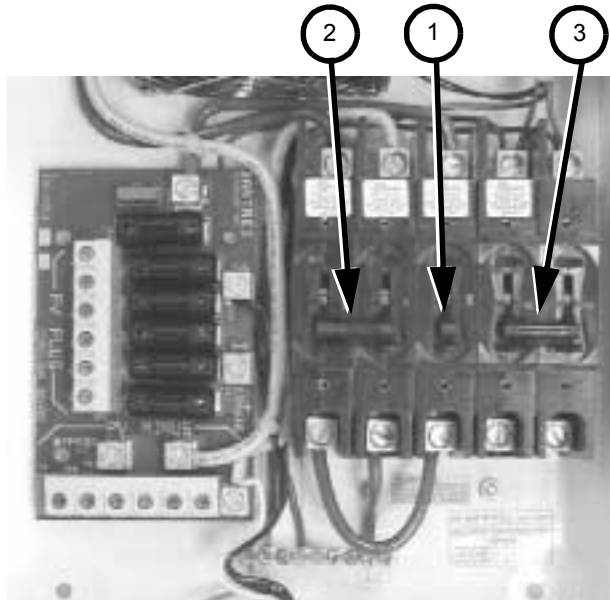

Figure 3-3 Startup sequence
1. Switch on the 100-amp DC circuit breaker located in the Sun Tie XR unit. This breaker supplies the DC power from the PV array to the Sun Tie unit. Refer to Figure 3-3, item 1.
2. Switch on the 1 and 100 amp (ganged) PVGFP breakers. These breakers open when 1 amp or greater is detected in the DC negative-to-ground line; indicating a ground fault condition. Refer to Figure 3-3, item 2.
3. Switch on the double-pole 15 amp AC circuit breakers located in the Sun Tie XR unit. These breakers provide the Sun Tie XR-produced power to the utility and provide the necessary utility voltage and frequency to the inverter. This means the inverter will not produce an AC output if utility voltage is not present on its output. Refer to Figure 3-3, item 3.